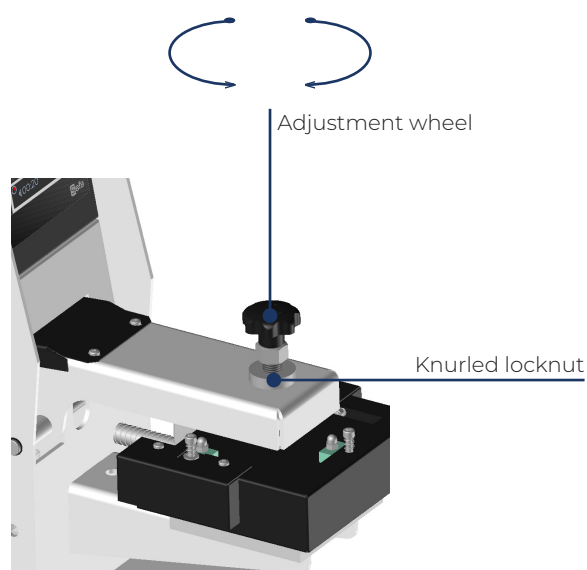

Figure 2
2. Turn the adjustment wheel as shown in Figure 2 to adjust the height of the platen.